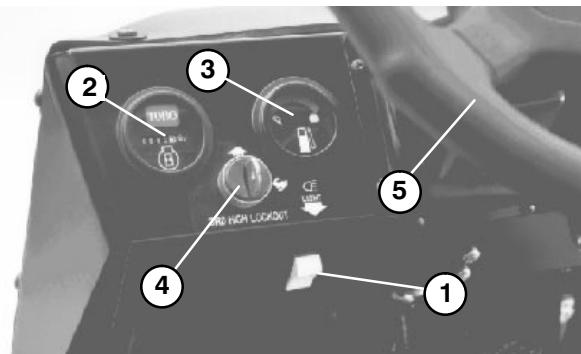

Figure 16
**Hour Meter** (Fig. 16) – Indicates the total hours of machine operation. The hour meter starts to function whenever the key switch is rotated to “ON” position.
**Light Switch** (Fig. 16) – Toggle switch to activate headlights. Push to turn lights “ON”.
**Fuel Gauge** (Fig. 16) – Shows amount of fuel in tank. Operates only when ignition switch is in “ON” position.
**Steering Wheel** (Fig. 16) – Turns vehicle. If engine stalls or power assist fails due to a malfunction, vehicle steering will require greater effort.